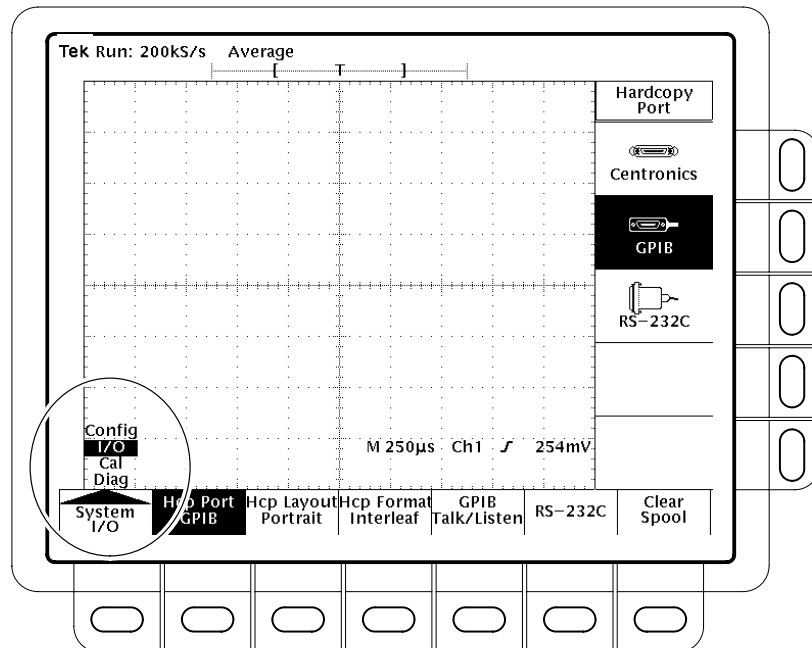

Figure 2–2: A pop-up menu
The procedure on page 2–10 illustrates how to navigate in the menu structure. If you are unfamiliar with this menu system, you may want to run through the procedure several times to learn how you can access functions and subfunctions. Refer to Figure 2–1 as necessary.
- The leftmost bottom menu button sometimes activates a pop-up menu (as shown in Figure 2–2). You can cycle through the pop-up menu options by repeatedly pressing the button. Each selection calls up different bottom and side menus.